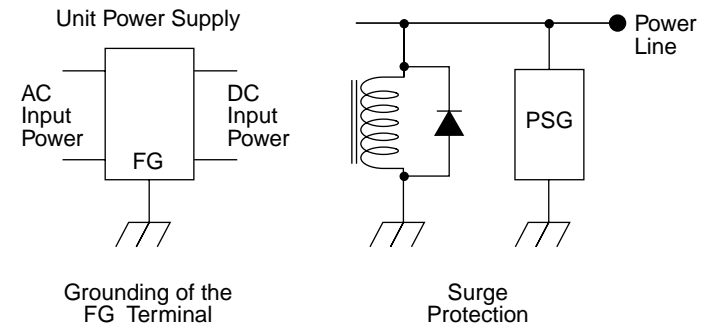

Figure 1
- For stability, use a regulated DC power supply. Surge absorbing circuits (diodes, varistors, etc.) are necessary if inductive loads such as relays and solenoids are connected to the same power line as the JTSED-W. If a DC power supply unit such as a switching power supply is used, the FG terminal should be grounded (see Figure 1, right).